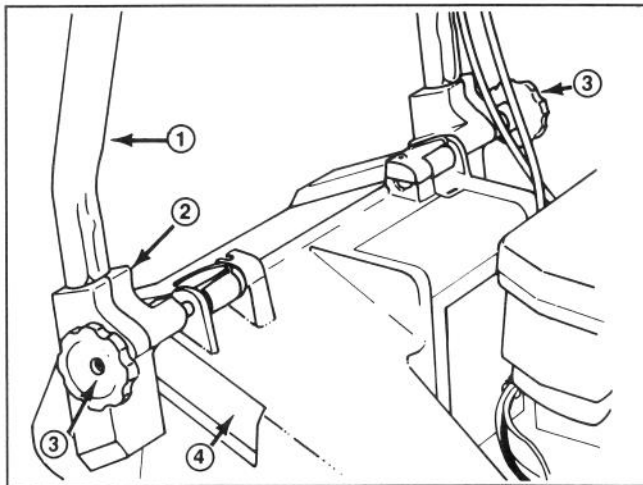
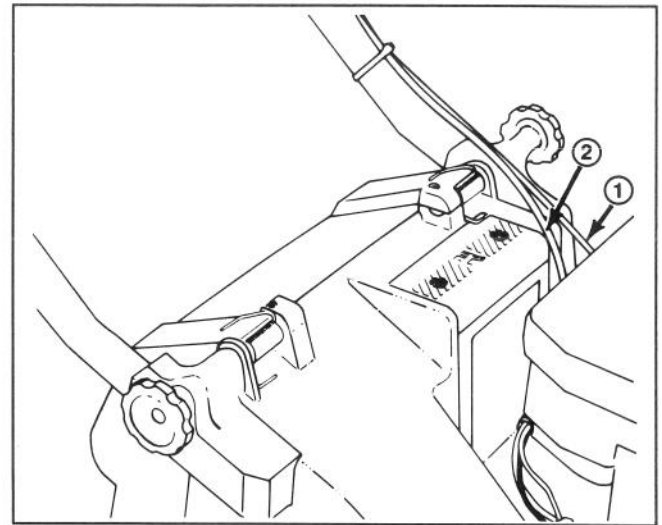

Figure 1
Figure 2
1. INSTALLING HANDLE—Loosen knobs on mounting brackets (Fig. 1).
3. Slide handle ends into holes in mounting brackets until handle ends are completely seated in brackets (Fig.1). Make sure throttle cable and traction cable (self-propelled model) rest on top of left mounting bracket (Fig. 2).
4. Rotate handle and brackets rearward until brackets fit securely into housing pockets (Fig. 2).